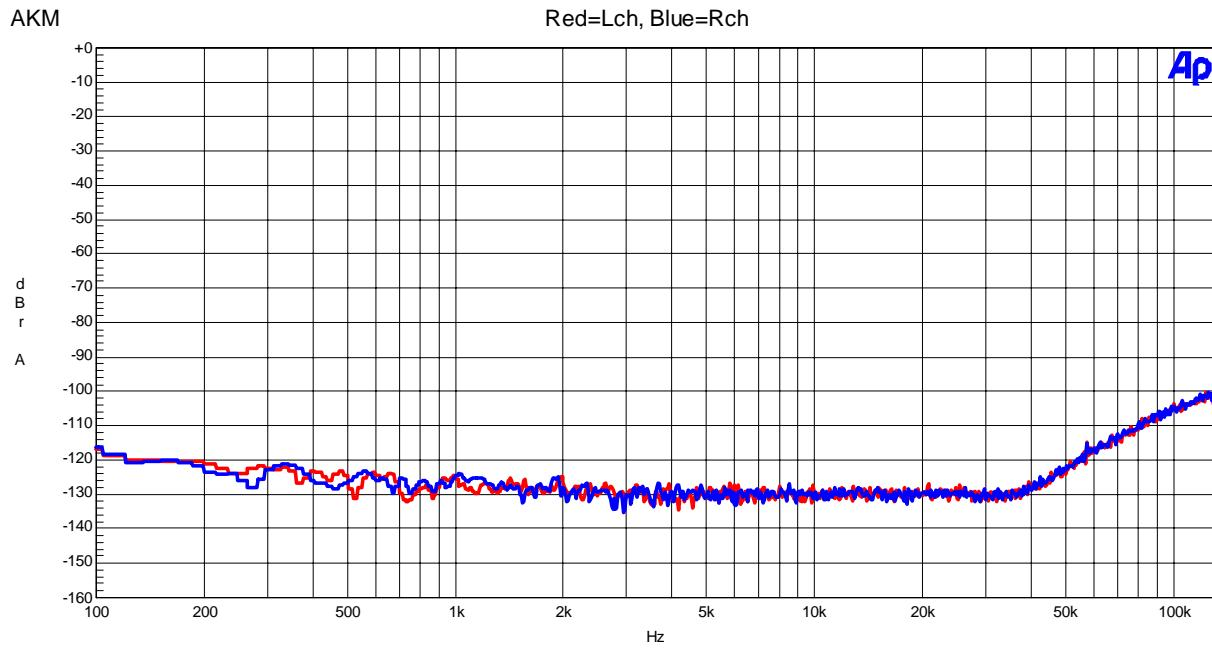

Figure 35 FFT (out band noise)
- Figure 35 FFT (outband noise)